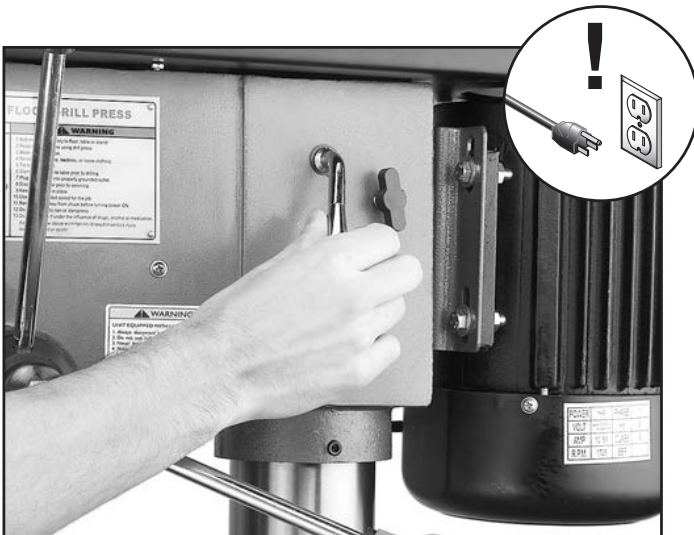

Figure 27. Using the belt tension lever.
3. Rotate the belt tension lever clockwise, as shown in **Figure 27**, to take tension off the V-belts.